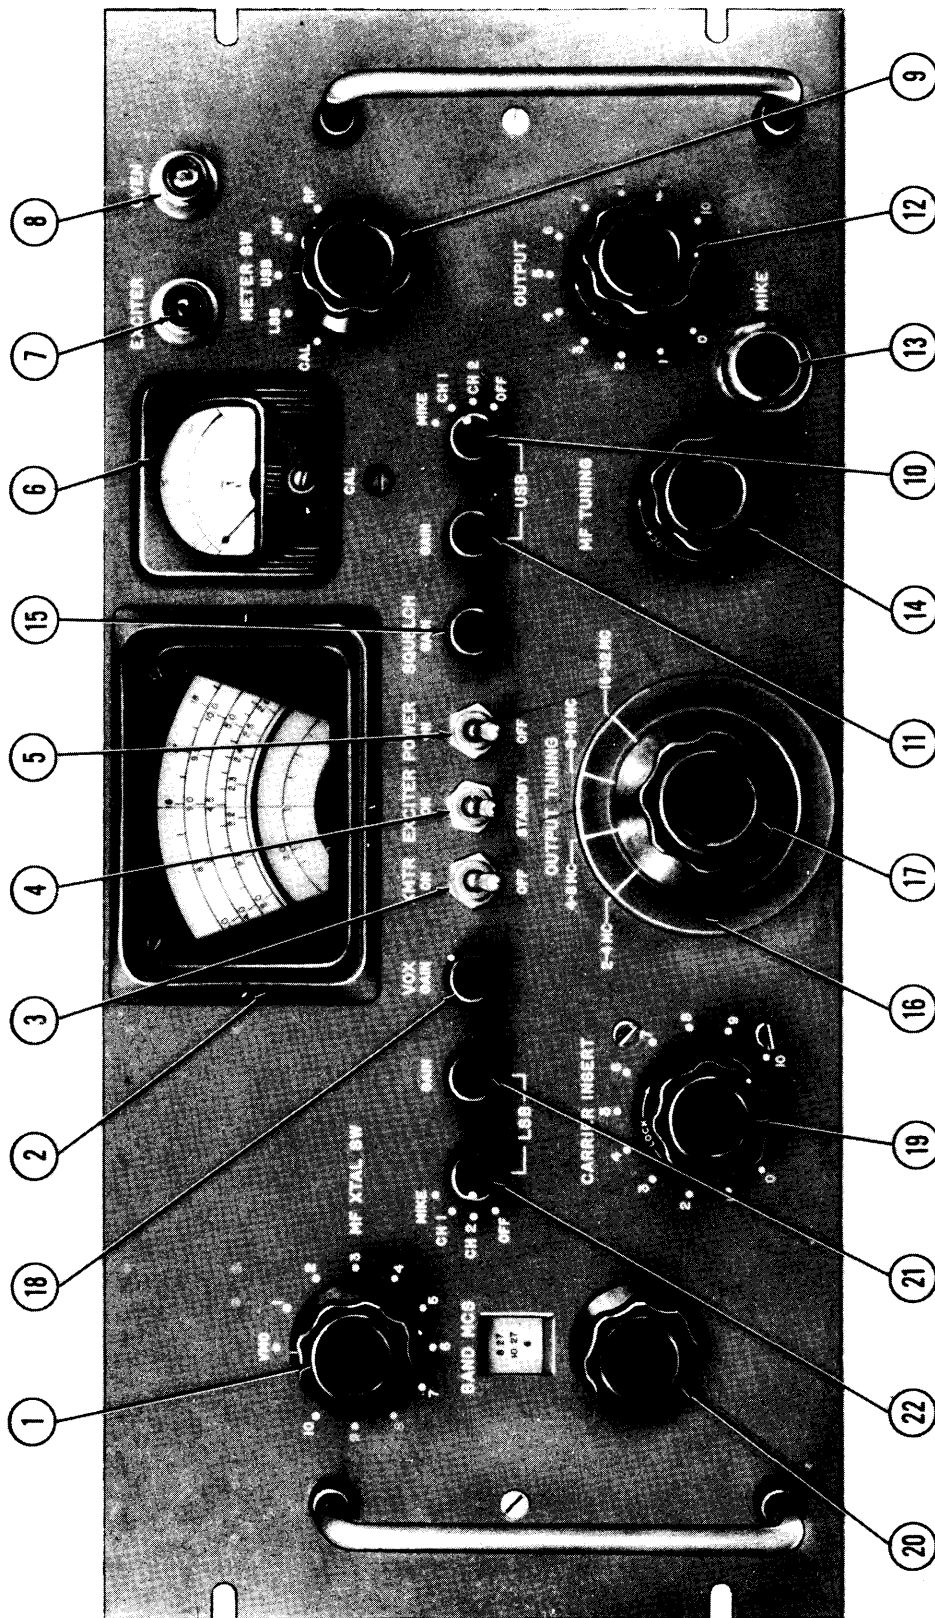

Figure 3-1. Operating Controls
a. POWER ON-OFF S103 is a toggle-switch control designated 5 on figure 3-1. ON, applies line voltage to power supply. OFF, turns SBE off entirely.
b. LSB S102 is a switch control designated 22 on figure 3-1. Selects audio input source for lower sideband channel.
c. LSB GAIN R169 is a potentiometer control designated 21 on figure 3-1. Adjusts level of LSB audio input.
d. USB S101 is a switch control designated 10 on figure 3-1. Selects audio input source for upper sideband channel.
e. USB GAIN R168 is a potentiometer control designated 11 on figure 3-1. Adjusts level of USB audio input.
f. OUTPUT TUNING KNOB S106 is part of switch control designated 17 on figure 3-1. Selects output frequency band. The associated outer disc designated 16 tunes the RF output circuits that are a part of the 2- to 32-mc HF section.
g. MIKE J101 is a connector control designated 13 on figure 3-1. Input jack to audio pre-amplifier for all high impedance microphones.
Front panel control R263 (CARRIER INSERT), designated 19 on figure 3-1, selects any degree of carrier insertion from -55 db to full output of the SBE. It does so by taking the required amount of 250-kc output from 250-kc oscillator V105.
CARRIER INSERT R263 (control 19 on figure 3-1) which controls level of carrier insertion.
Sideband energy centering around 250 kc is coupled by T127 to pins 2 and 7 of push-pull amplifier V113. A 2- to 4-mc injection is obtained from V115 which, in turn, is fed by the crystal oscillator section or the VMO input from J104. This injection frequency is 250 kc higher than the lower sideband output of the medium frequency modulator. The mid frequency dial (the single-scale dial of control designated 2 on figure 3-1) is calibrated to read directly in terms of the MF injection frequency; however, its associated circuit is actually tuned 250 kc below it by variable capacitors C167A and C167B (knob control 14 on figure 3-1). The grids of tubes V113A and V113B are supplied with 250-kc sideband voltages as well as MF injection voltages, and the lower sideband is passed by the tuned circuits of the modulator. The balancing out of the 2- to 4-mc injection supply is accomplished by MF balance control R130 which varies the gain of the A and B sections of V113; thus, the 2- to 4-mc injection cancels in the primary of T109. The medium frequency modulator serves as the final modulation stage when output frequencies of less than 4.25 mc are required from the SBE. For output frequencies greater than 4.25 mc, its output is further raised in frequency by the high frequency modulator.
Selection of the proper crystal for use with MF XTAL SW S107 (control designated 1 on figure 3-1) is as follows: Suppose the desired RF output of the SBE is 10.235 mc. BAND MCS switch S108 (control designated 20 on figure 3-1; a part of the 2- to 32-mc HF section, refer to paragraph 4-5) shows a multiplying factor of 6 on its dial for an 8.25- to 10.25-mc range. The crystal to be selected by the position of MF XTAL SW S107 should have a frequency of $2 \times 6 + 0.250 - 10.235$ mc or 2.015 mc. The crystal sockets associated with MF XTAL SW S107 may hold up to 10 crystals, each corresponding to a particular RF output of the SBE.
a. MF XTAL SW S107 is a switch control designated 1 on figure 3-1. Selects either external oscillator (VMO) or proper crystal for mid frequency oscillator.
b. MF TUNING C167A and C167B is a variable capacitor control designated 14 on figure 3-1. Tunes MF (2- to 4-mc) modulator and is associated with the single-scale dial of control designated 2 in figure 3-1.
The function of high frequency modulator Z107 is to provide final output frequencies from 4.25 to 32.25 mc by modulating the output of the medium frequency amplifier with an injection frequency from the high frequency oscillator. The medium frequency amplifier output is received at terminal 2 of Z107, and the HFO output at jack J110. Final output frequencies between 2 and 32 mc are fed directly into the control grid of the first RF amplifier, V118. The high frequency dial (the multi-scale dial of control designated 2 on figure 3-1) is calibrated to read directly in terms of the frequency to which RF amplifiers V118, V119, and V120 are tuned.
Injection frequencies from 8 to 34 mc in 2-mc steps are supplied by crystal-controlled high frequency oscillator V117. The proper injection is selected by the use of BAND MCS switch S108A and S108B, a front panel control designated 20 on figure 3-1. The injection is always between 1.75 mc and 3.75 mc higher than the output of Z107 because one input of Z107 is supplied by the medium frequency amplifier (whose output is the 0.25-mc lower sideband from its crystal; that is, 1.75 to 3.75 mc) and the other input is supplied by the HFO injection. The BAND MCS switch is used in the 0 position when SBE outputs below 4.25 mc are required. In this case, an 18-mc injection is applied to Z107 to prevent intermodulation distortion by keeping diodes CR107 and CR108 properly biased. The 18-mc injection and the sidebands produced in Z107 are not passed by the RF amplifiers which are tuned to 4.25 mc or less (approximately 14 mc away) in this instance.
The RF output taken from OUTPUT R205, a front panel control designated 12 on figure 3-1, is now at the output frequency of the SBE. The purpose of V118, V119, and V120 is to build up the generated signal to the rated 1-watt PEP output of the SBE. These stages are gang-tuned by C181A, C181B, C181C, and bandswitched by S106A, S106B, and S106C to cover the frequency range of 2 to 32 mc continuously. A fourth section of this switch, S106D, is used for inverting upper and lower sideband inputs when the SBE is operating in the 3.75- to 4.25-mc range as stated in paragraph 4-2. A small portion of the output is applied to R210 and R211 where, through C176 and CR114, a small DC voltage is produced which is
a. BAND MCS S108A and S108B is a switch control designated 20 on figure 3-1. Determines injection frequency range of high frequency modulator in 2-mc increments. Associated dial indicates frequency.
b. OUTPUT TUNING disc C181A, C181B, and C181C is a variable capacitor control designated 16 on figure 3-1. Ganged variable capacitors tune output circuits that are part of the 2- to 32-mc HF section. The associated knob selects the output frequency band.
c. OUTPUT TUNING knob S106A, S106B, S106C, and S106D. Switch control, designated 17 on figure 3-1, selects output frequency band. The associated disc tunes the RF output circuits and is associated with the multi-scale dial of control designated 2 on figure 3-1.
d. OUTPUT R205 is a potentiometer control designated 12 on figure 3-1. Adjusts SBE output power level.
a. **EXCITER ON-STANDBY S105** is a toggle-switch control designated 4 on figure 3-1. **STANDBY** allows **VOX** or push-to-talk input to activate the SBE and the transmitter which the SBE serves. **ON** activates SBE without need for **VOX** or push-to-talk input and without operating associated transmitter.
b. **XMTR ON-OFF S104** is a toggle-switch control designated 3 on figure 3-1. **ON**: activates transmitter. Eliminates need for **VOX** or push-to-talk, through S105 (above), by completing the ground circuit of the **XMTR** final plate relay. **OFF**: transmitter operated by **VOX** or push-to-talk circuit when **EXCITER** switch is in **STANDBY** position.
c. **VOX GAIN R140** is a potentiometer control designated 18 on figure 3-1. Voice-operated transmitter circuit gain control.
d. **SQUELCH GAIN R129** is a potentiometer control designated 15 on figure 3-1. Used in conjunction with **VOX GAIN**. (Refer to paragraphs 3-8 and 3-9 of operator's section.)
e. **EXCITER I101** is an indicator designated 7 on figure 3-1. Lights during operation when **EXCITER** switch is on or **EXCITER** is activated by **VOX** or push-to-talk.